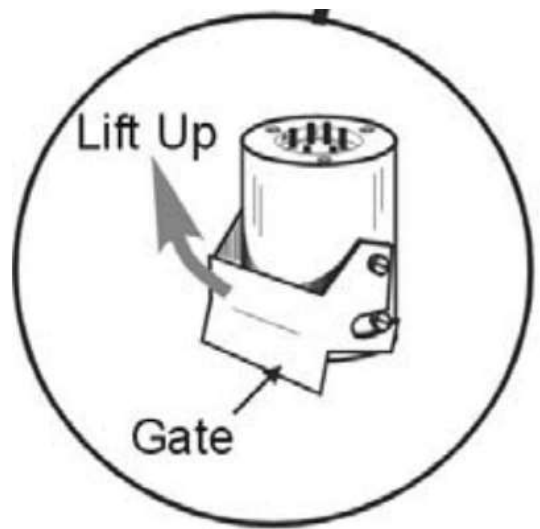

Figure 5-1: Cell Holder
3. Lift the latch of the cell holder see Figure 5-1.